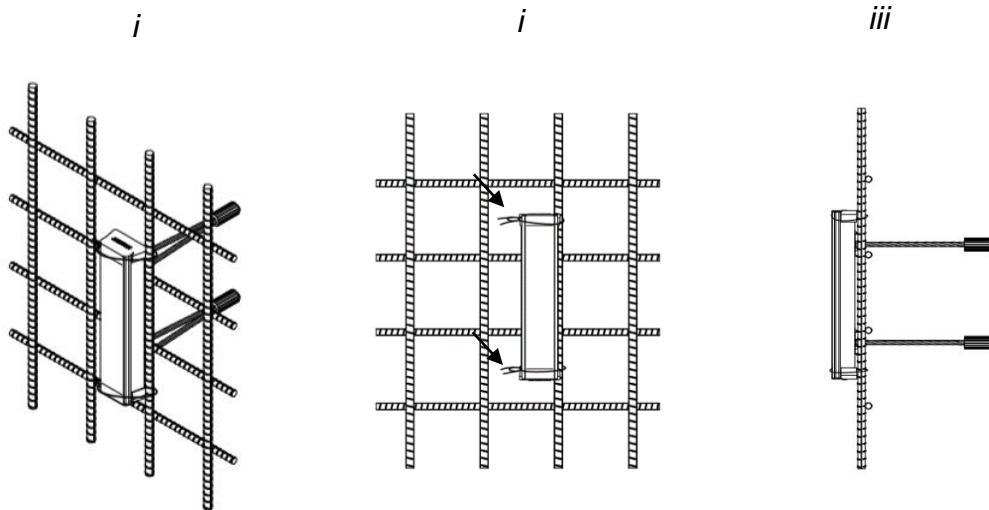

Figure 4: Installation Using GI Wire
- Secure MLB to reinforcement bar, using GI wire at top and bottom locations as shown in Figure 4. The GI wire should be pressing against the black caps at the MLB edges.
- The GI wire knot should be on the side face of the MLB, refer Figure 4 (ii).